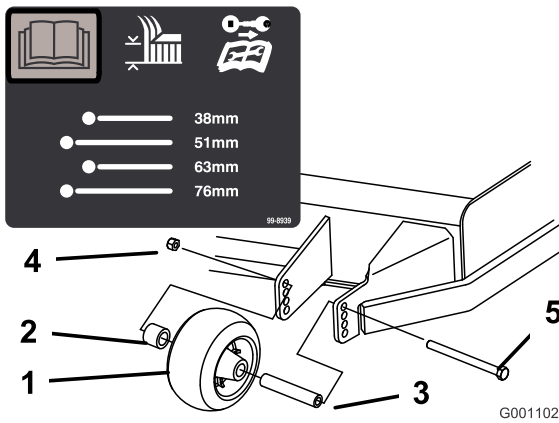
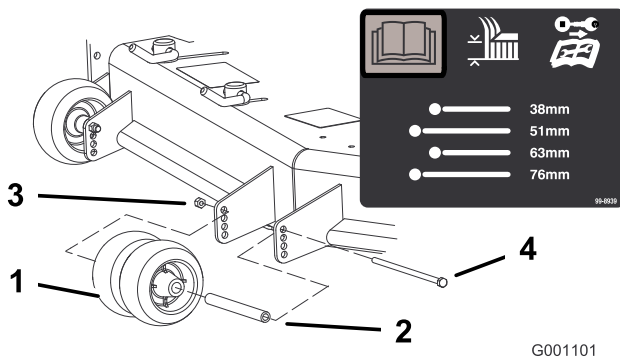
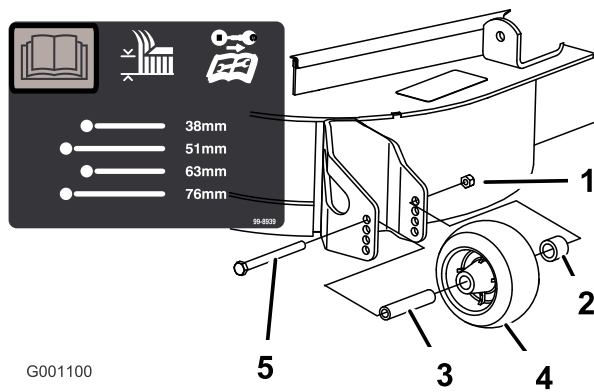

Figure 17
Figure 18
Figure 19
3. After adjusting the height-of-cut, adjust the rollers by removing the flange nut, bushing, spacer, and bolt (Figure 17 , Figure 18 and Figure 19).
- Note:** The two middle rollers will not have a spacer (Figure 18).
5. Install the flange nut bushing, spacer, and bolt. Torque to 40-45 ft-lb (54-61 N•m) (Figure 17 , Figure 18 and Figure 19).